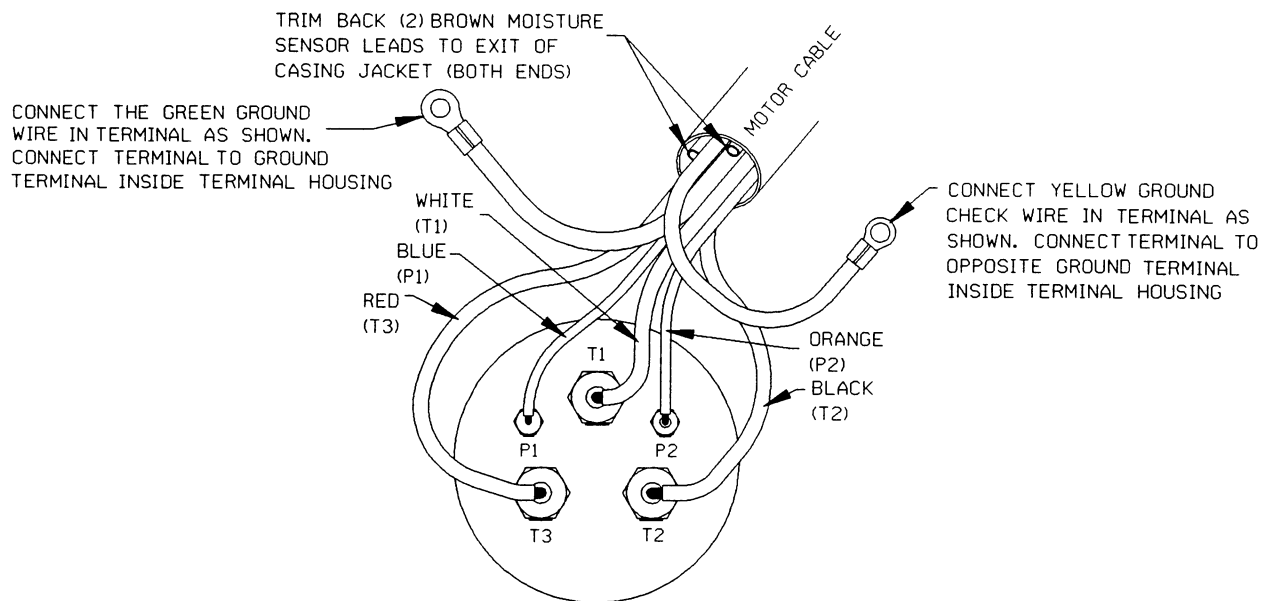

Figure 4. Terminal Housing Wiring Connections
Slide a length of heat-shrink tubing up over each of the power cable leads. Insert the standard power cable leads into the large terminal collars (26), and secure them with the setscrews (27). Insert the two control leads into the small terminal collars (14) and secure them with the setscrews (13). See Figure 4 for wiring connections.